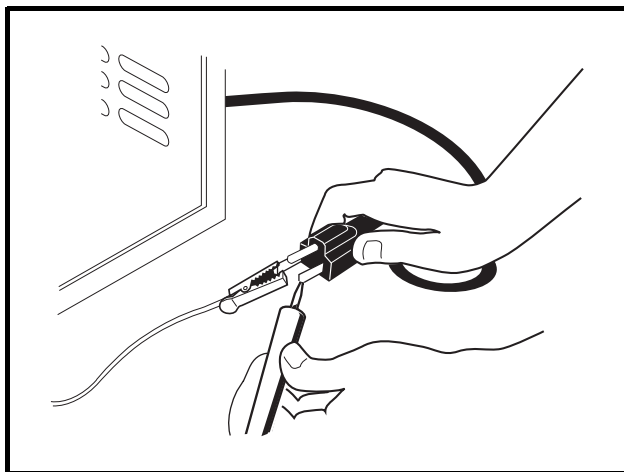

Figure 5-11 AC Cord Test
- 5.3. With relay bypassed, there should be continuity across the AC cord blades (Figure 5-11, Page 5-15).